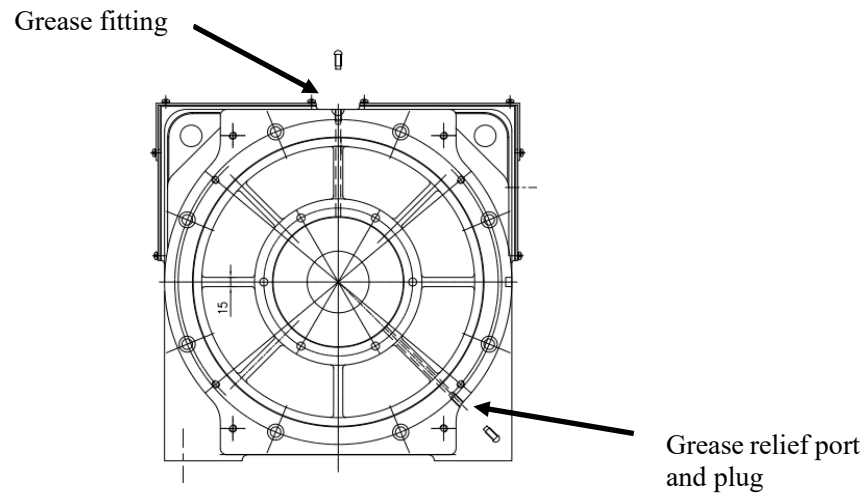

Figure 17 Grease fitting and relief port location
1. Remove the grease relief plug found roughly at 4 o'clock when facing the sheave using the #5 hex wrench. See Figure 17.